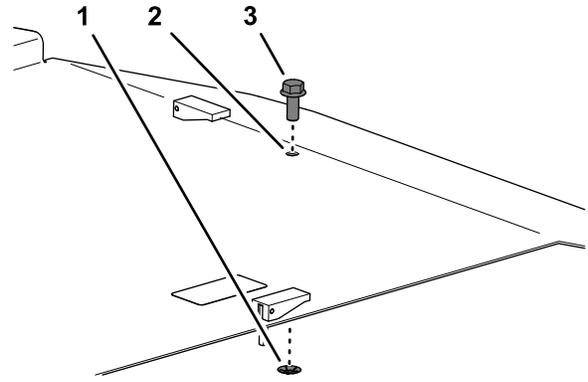

Figure 4
2. Remove the push-nut that secures the bolt to the deck cover and remove the bolt from the cover (Figure 4).